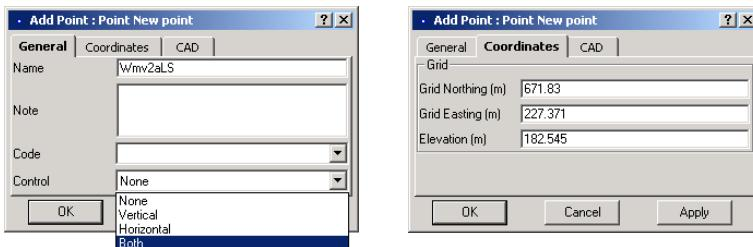

Figure E-33. Add Point Dialog Box - General and Coordinates Tabs
2. Enter a point’s *Name* (Wmv2aLS) and *Coordinates* in the Local System (Figure E-33). Click **OK**.